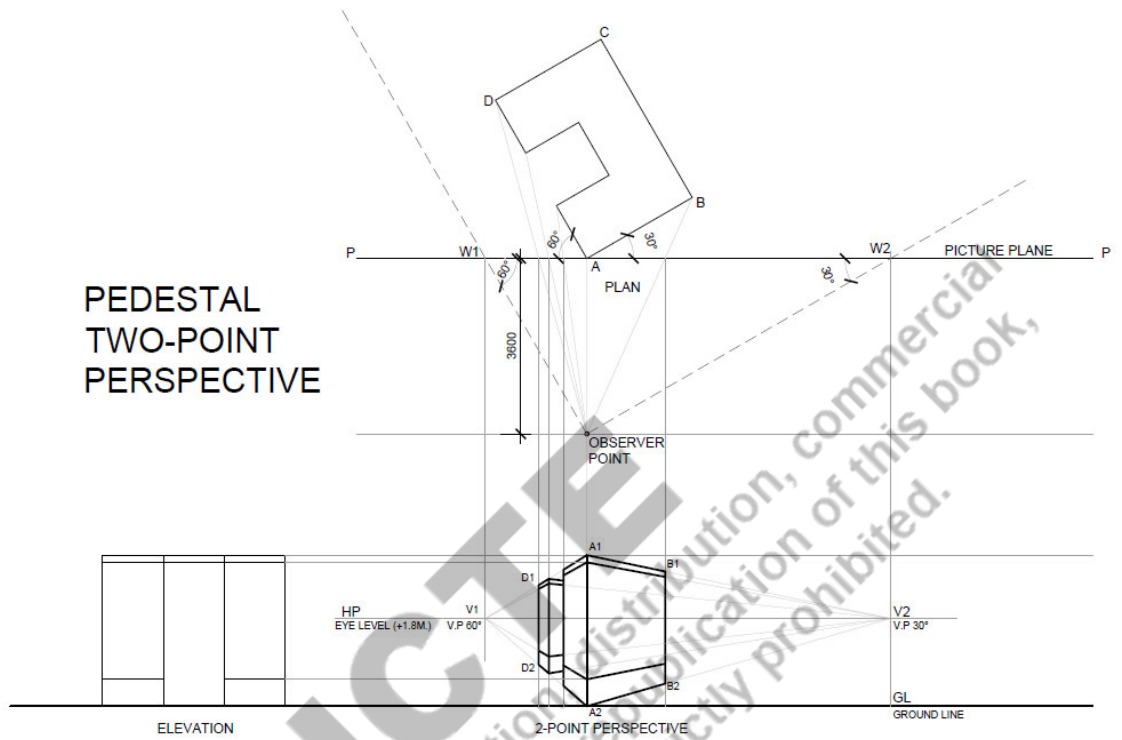

Fig 5.13 Pedestal in Two Point Perspective
1. Assume a line indicating Picture Plane (PP). Object is kept on the ground hence its plan is drawn on line PP. object is making an angle of 30 degree and 60 degrees with the picture plane.
4. Draw one horizontal line (HL) above ground level at a height equal to observer's eye level i.e 1.8m.
6. from S join all the points of object up to PP and then project them vertically downward up to ground level (GL).
7. point A touches the PP hence true height and perspective height of this point will be same. Transfer true height of the object of this line and converge them to vanishing points V1 and V2. These converging lines cut vertical projections of B and D at B1 B2 and D1D2 (upper and lower points of object). Hence sides A1 D1 A2 D2 and A1 B1 and A2 B2 are drawn **Fig 5.13**.